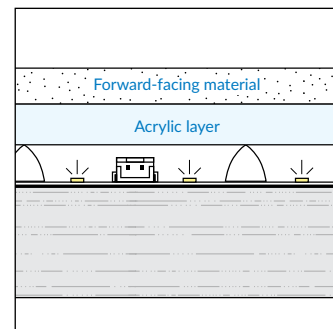

Figure 27
- **Pro tip:** place a layer of acrylic on top of the bumpers to create more height, space, or diffusion. Acrylic is commonly available in multiple thicknesses and transparencies (figure 27).